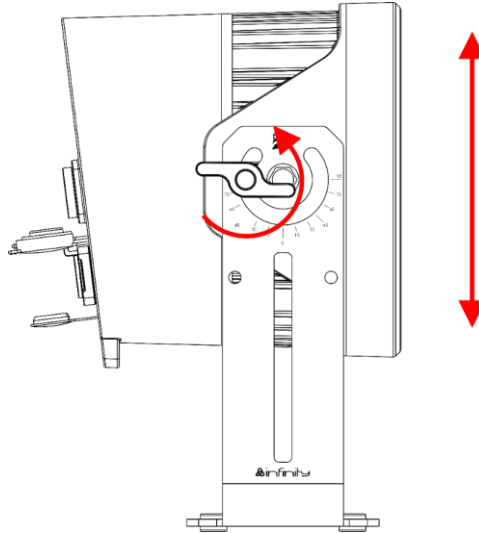

Fig. 06
- 01) Turn the 2 **adjustment screws (02)** counterclockwise to loosen them.
- 02) Tilt the device to the desired angle (Fig. 06).
- 03) Turn the 2 **adjustment screws (02)** clockwise to tighten them. Make sure that the device cannot move freely after the 2 **adjustment screws (02)** are tightened.